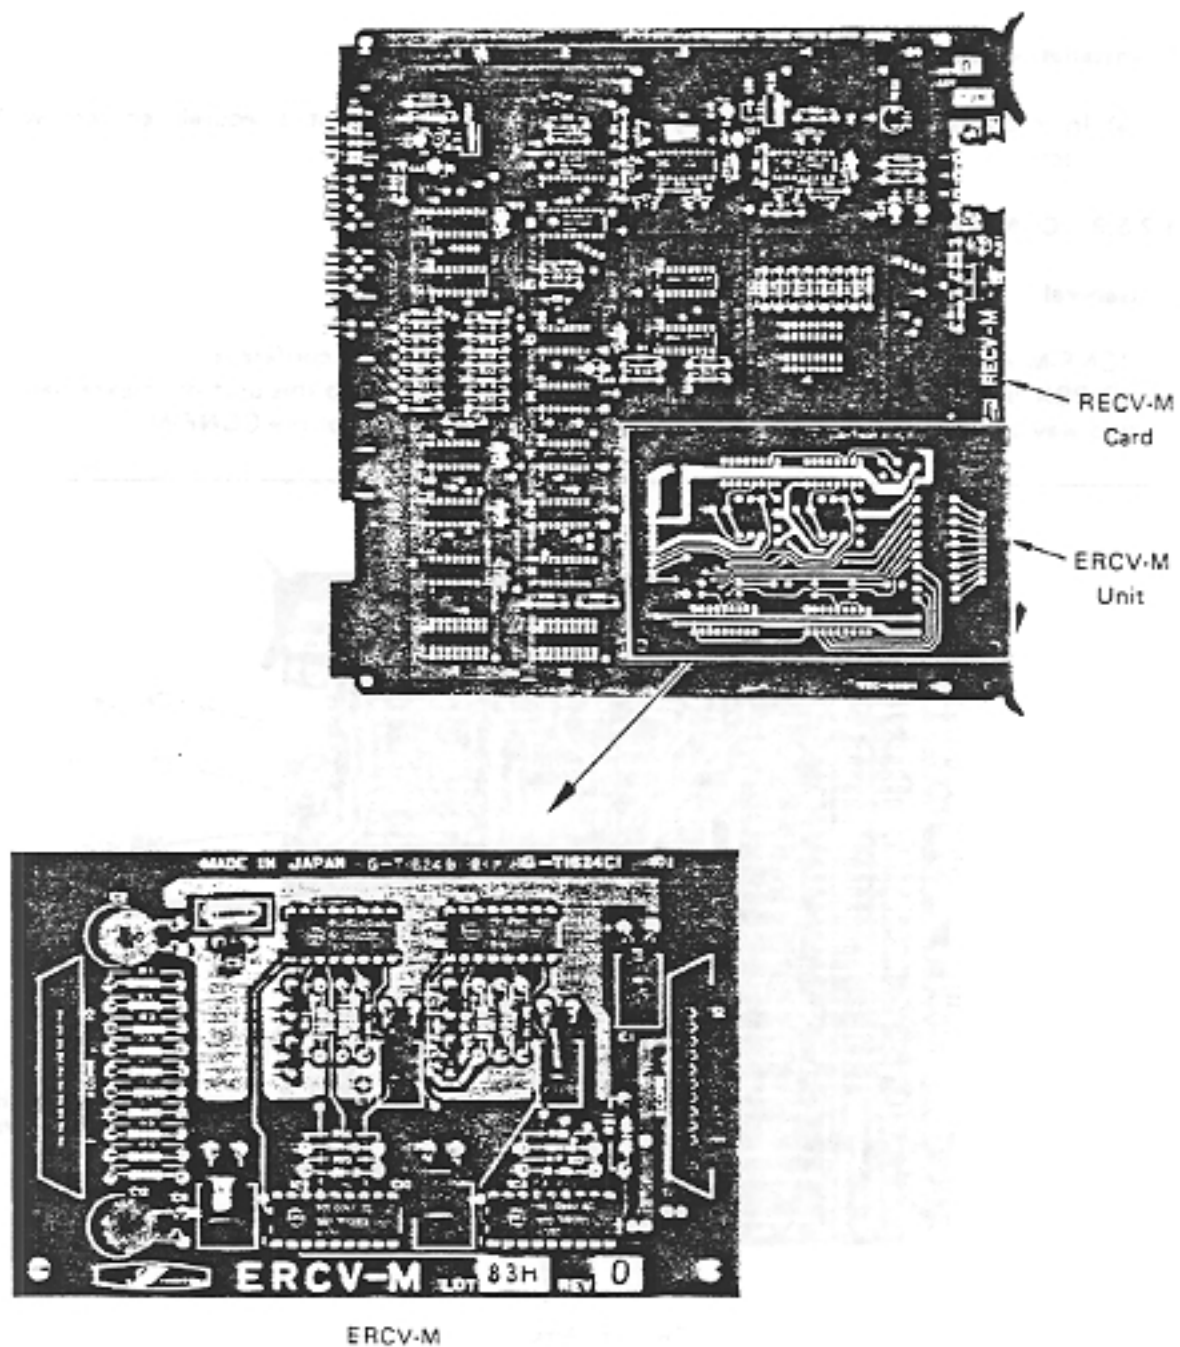

Figure 3.6.2.5.8(1) External View of ERCV-M
(1) General
ERCV-M is installed on the RECV-M card. An ERCV-M has two DTMF receiver circuits; if it is installed on RECV-M, the card has a total of four DTMF receiver circuits. Figure 3.6.2.5.8(1) shows an external view of ERCV-M.